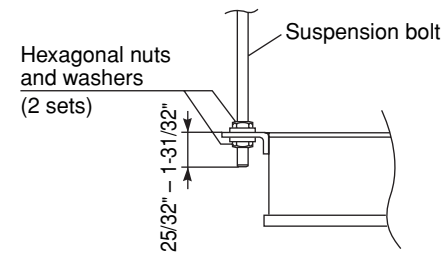

Fig. 3-81
- (3) Suspend and fix the indoor unit using the 2 hexagonal nuts (field supply) and special washers (supplied with the unit) as shown in Fig. 3-81.